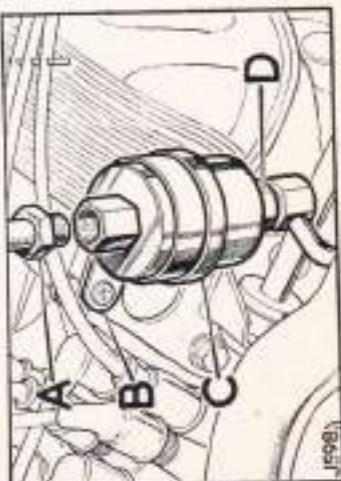

Fig. 12 Fuel filter, cartridge type
**Fuel filter, cartridge type.** (Fig. 12)